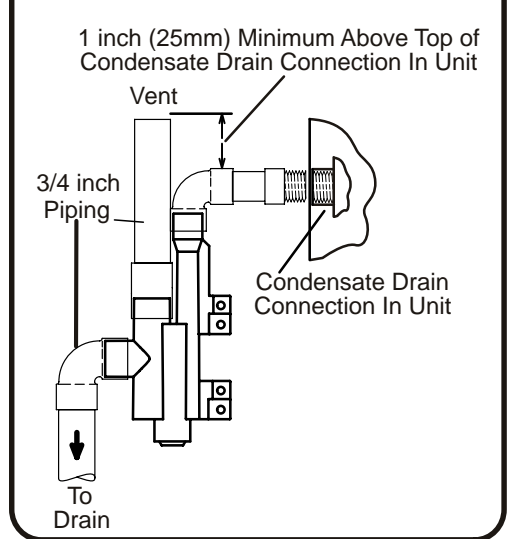

Figure 47
3. Install the cap over the clean out opening at the base of the trap. Secure with clamp. See Figure 47.
4. Install drain trap using appropriate PVC fittings, glue all joints. Glue the provided drain trap as shown in Figure 47. Route the condensate line to an open drain. *Condensate line must maintain a 1/4" downward slope from the furnace to the drain.*